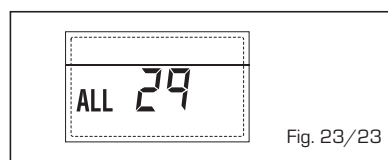

Fig. 23/23
- **HEATING RETURN SENSOR ANOMALY "ALL 30" (fig. 23/24)**